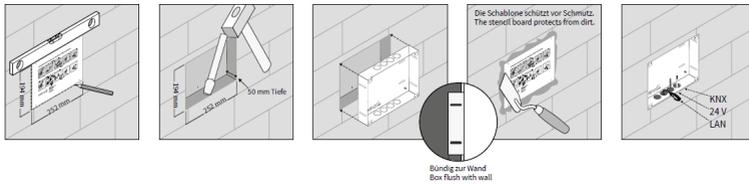
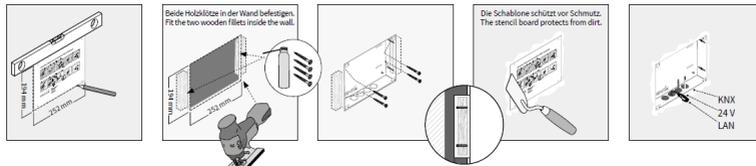

Figure 1: Installation in Brickwork
Figure 2: Installation in Cavity Wall
- Depending on the substrate, create a recess in the wall with the dimensions shown in figure 1 (brickwork) or figure 2 (cavity wall). You can use the stencil board delivered in the PEAKnx flush-mounted box to draw the dimensions of the recess on the wall. The flush mounted box must be later flush with the wall.